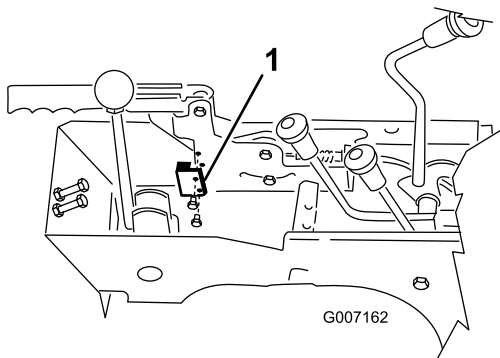

Figure 5
1. Mount the parking brake switch to the parking brake mount with two screws as shown in Figure 5.